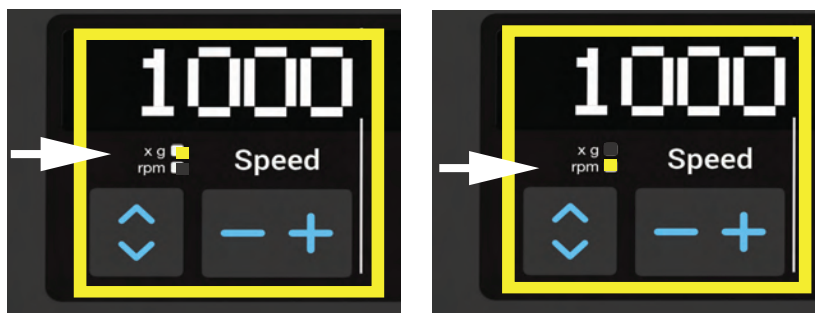

Figure 4–2: Choosing between RCF / rpm and setting the Centrifuge Speed
1. Press the **Arrow** keys below the xg / rpm LED indicators (left in Figure 4–2) to toggle between RCF (in xg, which means multiples of the force of gravity) and speed (in rpm, which is short for revolutions per minute).
The LED indicator **xg** or **rpm** is lit to indicate the selected mode, and the value in the LCD display switches to an **RCF** or **rpm** reading. The example in Figure 4–2 shows the rpm reading (bottom) and the equivalent RCF reading (top).